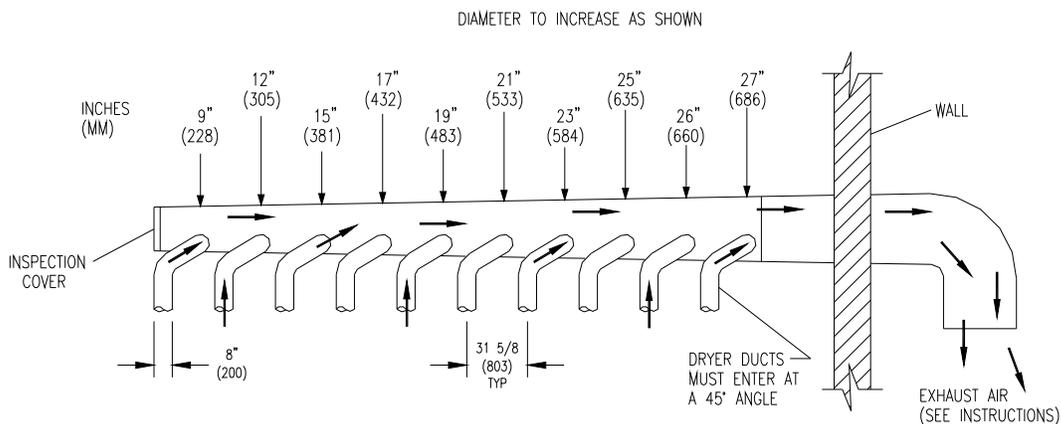

FIGURE 2- Dryer Exhausting Using A Main Discharge Duct.
7. **EXHAUST INSTALLATION.** (Refer to Figure 2 at the end of section 7.) Exhausting of the dryer(s) should be planned and constructed so that no air restrictions occur. Any restriction due to pipe size or type of installation can cause slow drying time, excessive heat, and lint in the room.
Installation of several dryers, where a main discharge duct is necessary, will need the following considerations for installation (see Fig.2). Individual 8" ducts from the dryers into the main discharge duct should be at a 45 degree angle in the direction of discharge airflow.
NOTE: Never install the individual 8" ducts at a right angle into the main discharge duct. The individual ducts from the dryers can enter at the sides or bottom of the main discharge duct. Figure 2 indicates the various round main duct diameter to use with the individual dryer ducts. The main duct can be rectangular or round, provided adequate airflow is maintained. For each individual dryer, the total exhausting (main discharge duct plus duct outlet from the dryer) should not